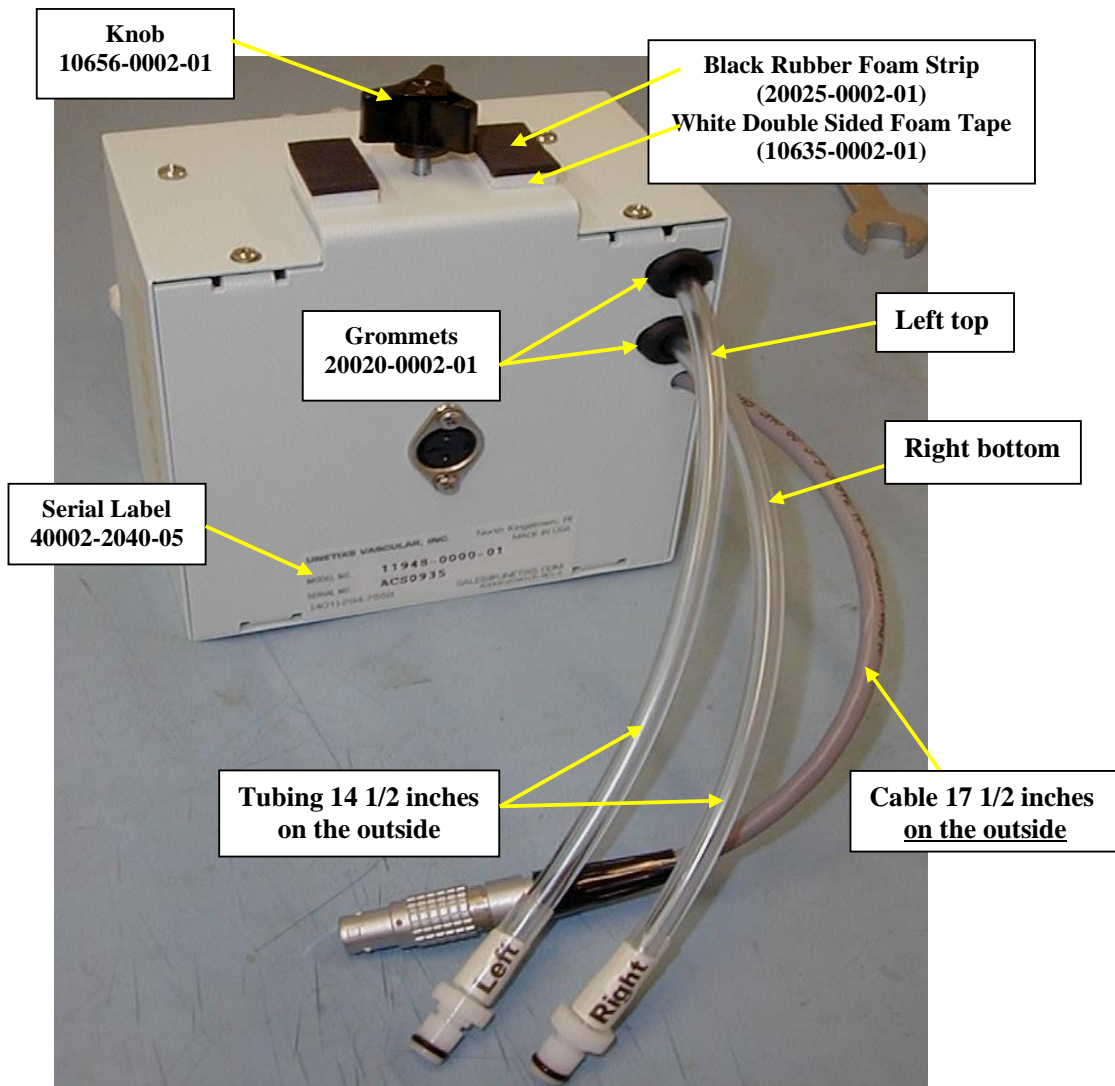

Figure 14
- 6.2. Slide the 2 grommets for the clear tubing to their appropriate slots on the back housing (Left – Top / Right – Bottom). See Figure 14 for reference.
- 6.7. Cut (2) 1/2” x 1 inch pieces of white double sided foam tape (10635-0002-01) and (2) black rubber foam strip 1/2 X 1” (20025-0002-01) and mount to the opposite side of the knob. See Figure 14.
6.13. Apply Serial Number Label (40002-2040-05) as shown in Figure 14.